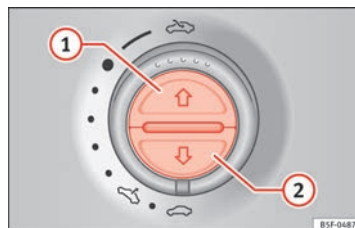

Fig. 64 On the interior roof lining: switches for the sun blind.
Opening completely (automatic function)	Press button ⇒ Fig. 64 ① briefly.
- *Sun blind*: Within five seconds of triggering the anti-trap function, press button ⇒ Fig. 64 until the sun blind closes fully.